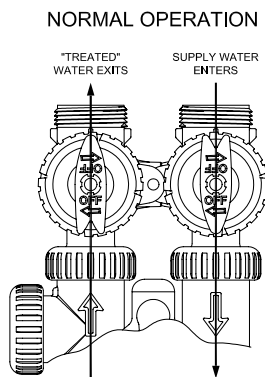
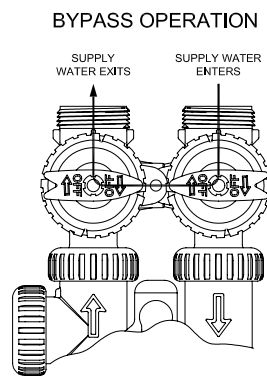

Figure 3
Figure 4
2. Place the bypass valve in the bypass position. (See figure 3 page 6) Turn on the main water supply. Open a cold soft water faucet to flush the piping of any air and/or foreign material. Run until the water is clear.
6. Push REGEN button and hold it down for 3 seconds. The system will advance to the “First” position. (Note: Depending on how the system is programmed it could read backwash, rinse, brine or fill). Pushing REGEN button until “Rinse” shows in the left upper hand corner of display. Slowly place the bypass into the “diagnostic mode” (see fig 4, page 5). Run water to the drain until it runs clear. Return the bypass valve to the by-pass position (fig 3, page 5). Push REGEN button until unit is back to softening mode. **Repeat with second tank.**